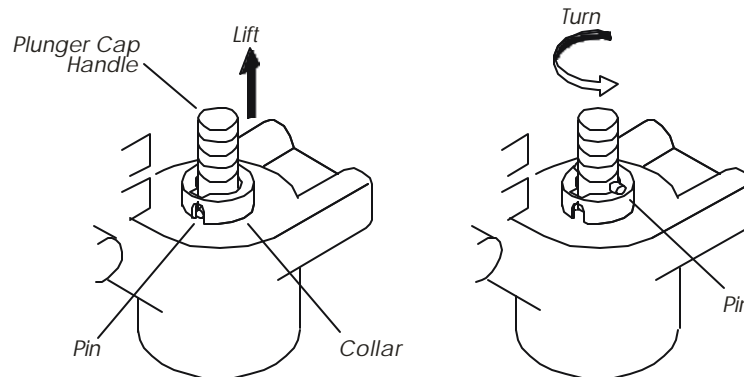

Figure 6- 4 Lifting the plunger cap handle.
4. Locate the plunger assembly in Figure 6- 3. Lift up the plunger cap handle as shown in the following figure and rotate it until it rests on the collar. Then release the plunger cap handle.